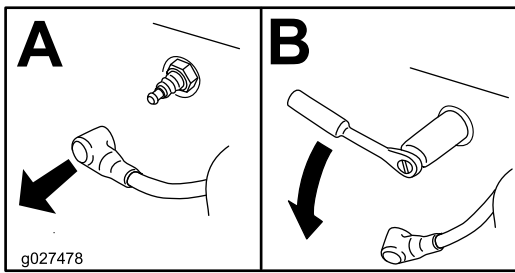

Figure 39
- Remove the spark plug (Figure 39).